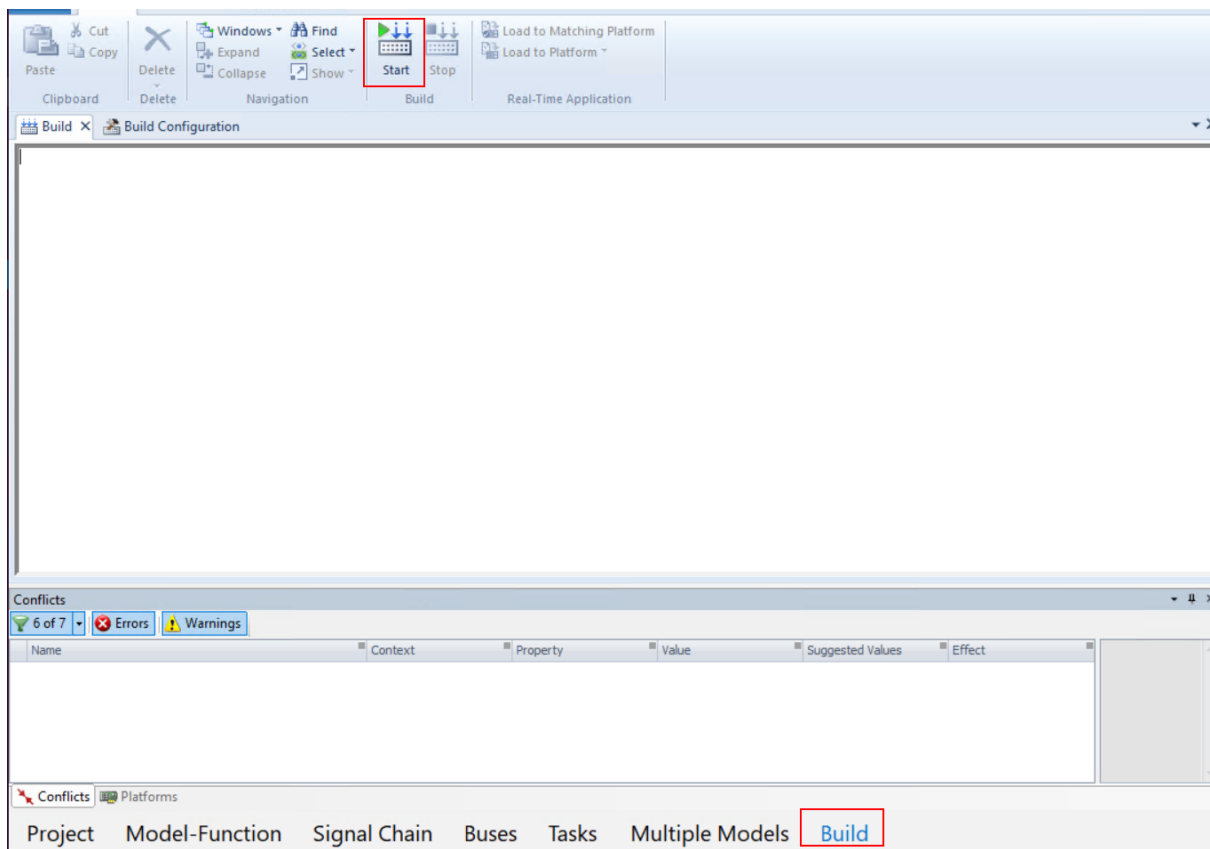

Figure 12.73: Build the project.
- 17) Go to the build tab and start the building process. After building is complete the application will be loaded automatically in the MicroAutoBox III (see Figure 12.73).